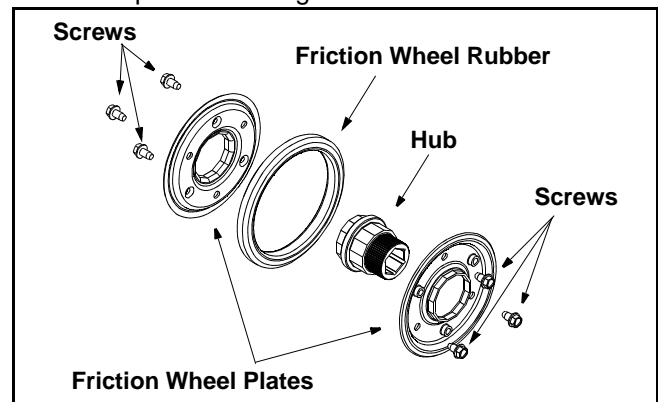

Figure 20
- Remove the six screws from the friction wheel assembly (three from each side). Remove the friction wheel rubber from between the friction wheel plates. See Figure 20.